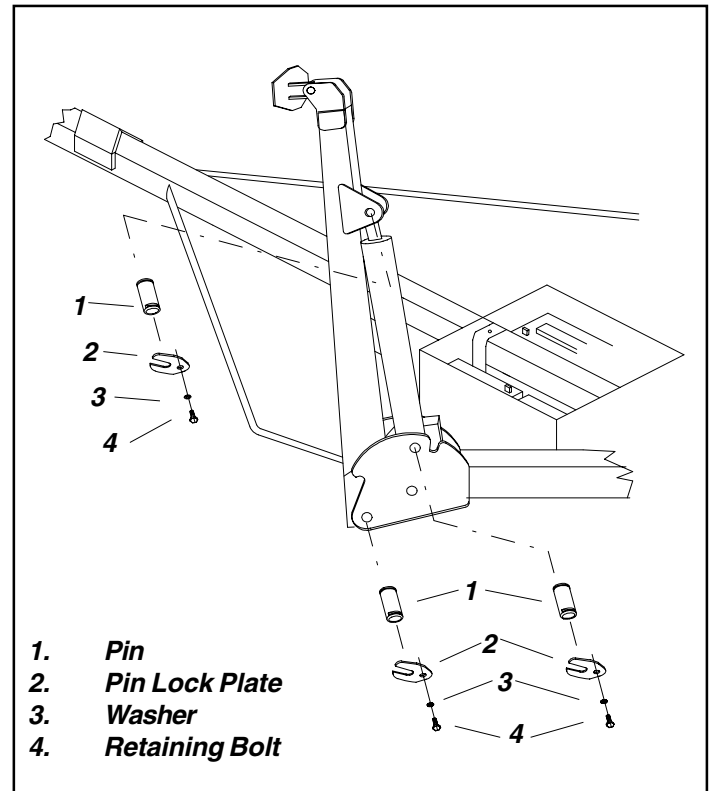

Figure 4-19: Outrigger Cylinder
4.16 Outrigger Cylinder (Figure 4-19)